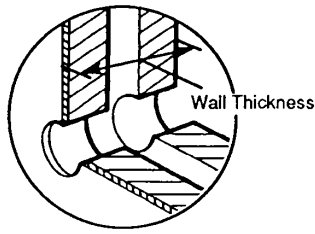
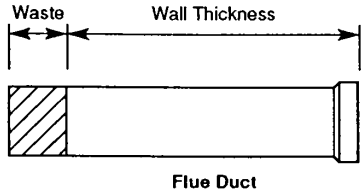

Fig. 19
Fig. 20
1. Measure the wall thickness (Fig. 19). Mark this dimension on the **Flue Duct** from the flared end and cut the waste off the plain end (Fig. 20).